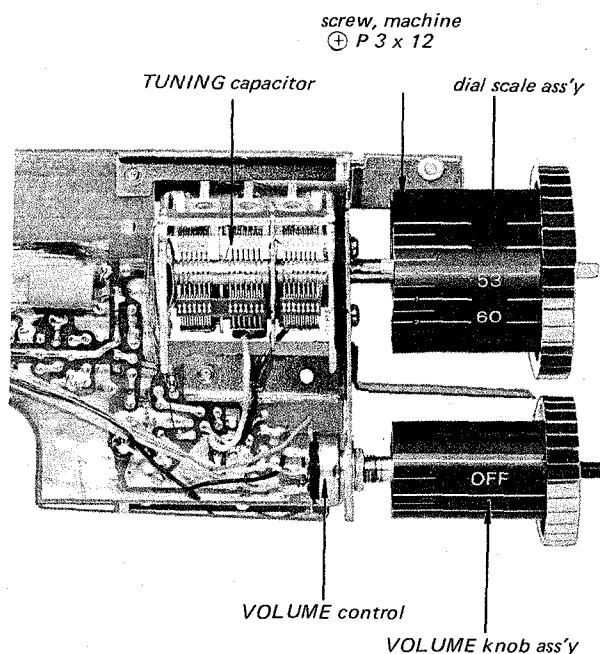

Fig. 2-3.
- Adjust the dial scale ass'y setting position so that the "53" mark on the scale just faces forward when viewed from the conductor side of the printed circuit board as shown in Fig. 2-3.
- Install the VOLUME knob ass'y on the shaft of the VOLUME control so that the "OFF" mark on the knob ass'y just faces forward when viewed from the conductor side of the printed circuit board as shown in Fig. 2-3.